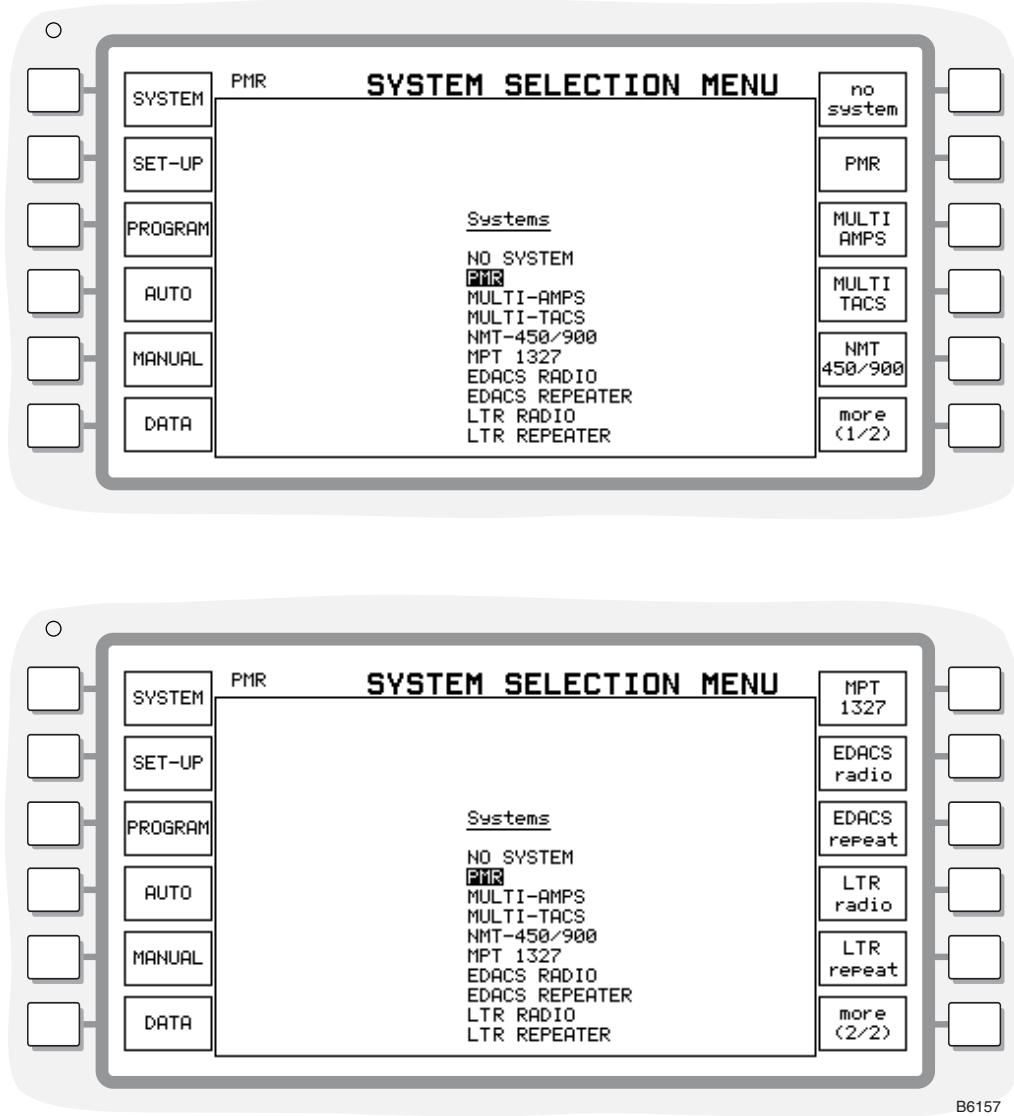

Fig. 1-1 System selection menu
4. Select the relevant system on the Service Monitor, (PMR in this example) from the SYSTEM SELECTION MENU by using the key sequence, [SYSTEM], [*PMR*]. The display shown in Fig. 1-1 appears.